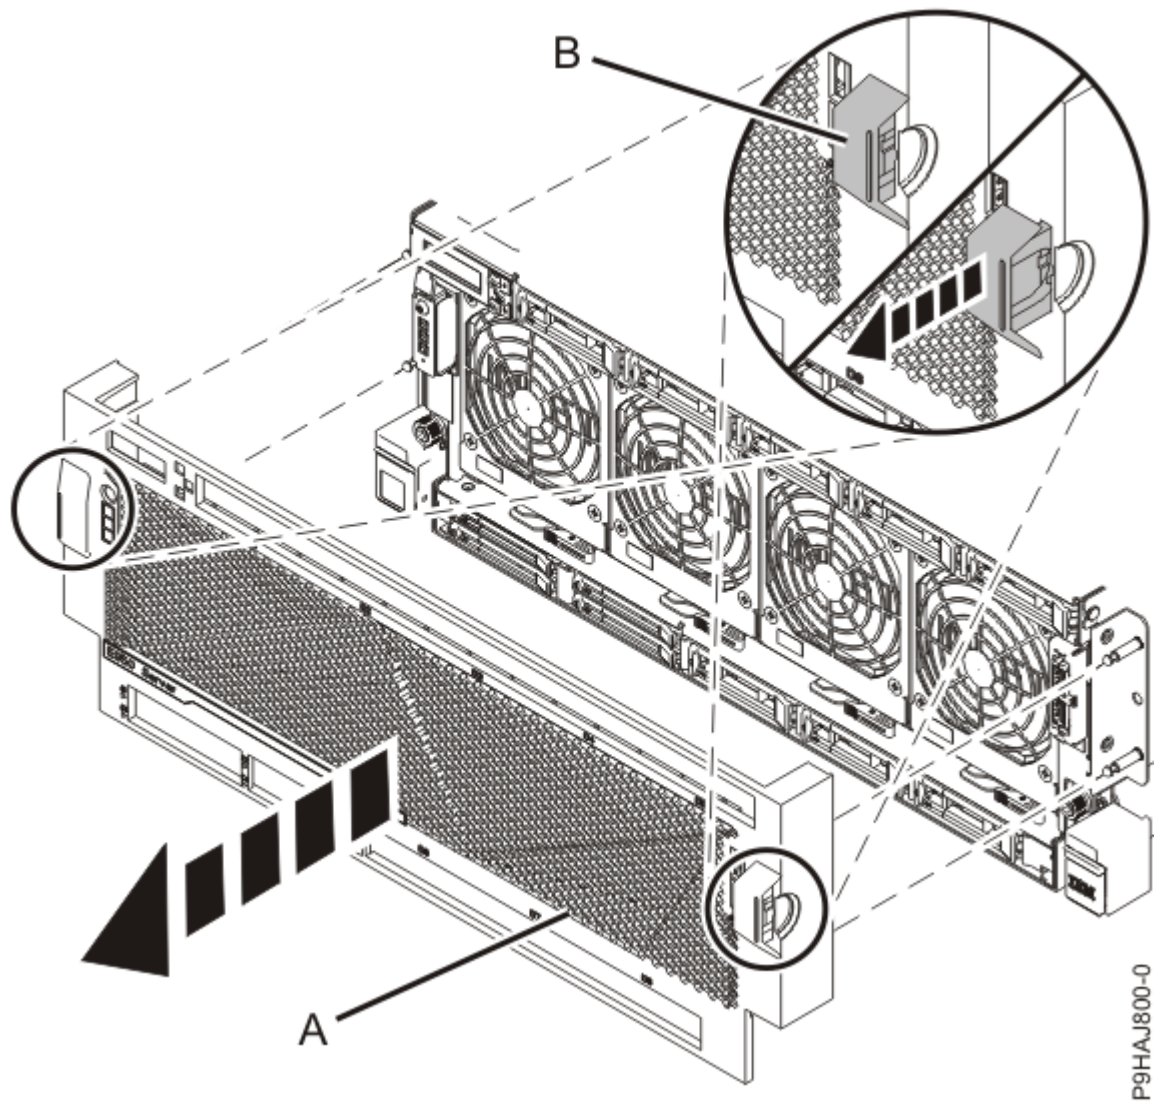

Figure 8: Removing the front cover
2. Place your fingers on the indentations **(B)** located on both sides of the cover, as shown in Figure 8 on page 10.
3. Pull the cover (**A**) away from the system, as shown in Figure 8 on page 10.